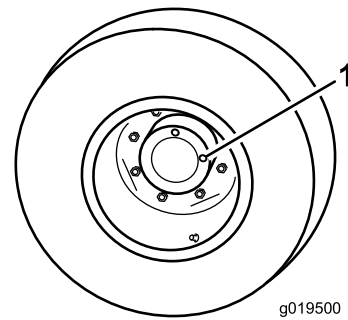

Figure 81
1. With machine on level surface, position the wheel so 1 check plug is at the 12 o'clock position and the other is at 3 o'clock position (Figure 81).
1. Check/drain plug (2)
2. Remove the plug at the 3 o'clock position (Figure 81).